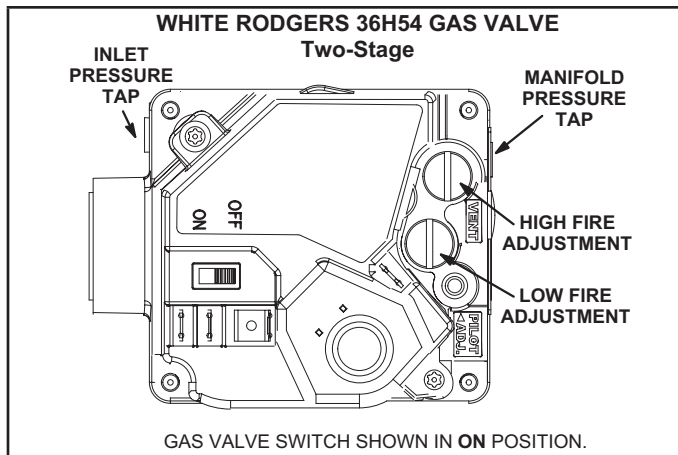
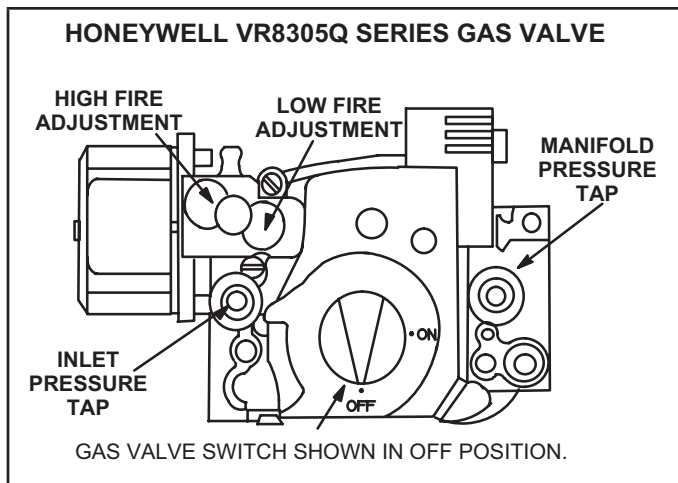

FIGURE 16
FIGURE 17
On the White-Rodgers valve second stage is slow opening (on to high fire pressure in 40 seconds and off to low fire pressure in 30 seconds). The White-Rodgers valve is adjustable for high fire only. Low fire is not adjustable. On the Honeywell valve second stage is quick opening. The Honeywell valve is adjustable for both low fire and high fire. FIGURE 16 and FIGURE 17 show gas valve components. TABLE 4 shows factory gas valve regulation for ZGC series units.
Gas Valve Operation for Honeywell VR8305Q or White Rodgers 36H54 FIGURE 16 or FIGURE 17
- 5 - Turn gas valve switch to OFF. See FIGURE 16. On Honeywell VR8305Q gas valves, turn the knob on the gas valve clockwise to "OFF". Do not force. See FIGURE 17.
- 6 - Wait five (5) minutes to clear out any gas. If you then smell gas, STOP! Immediately call your gas supplier from a neighbor's phone. Follow the gas supplier's instructions. If you do not smell gas, go to the next step.
- 7 - Turn gas valve switch to ON. See FIGURE 16. On Honeywell VR8305Q gas valves, turn the knob on the gas valve counterclockwise to "ON". Do not force. See FIGURE 17.